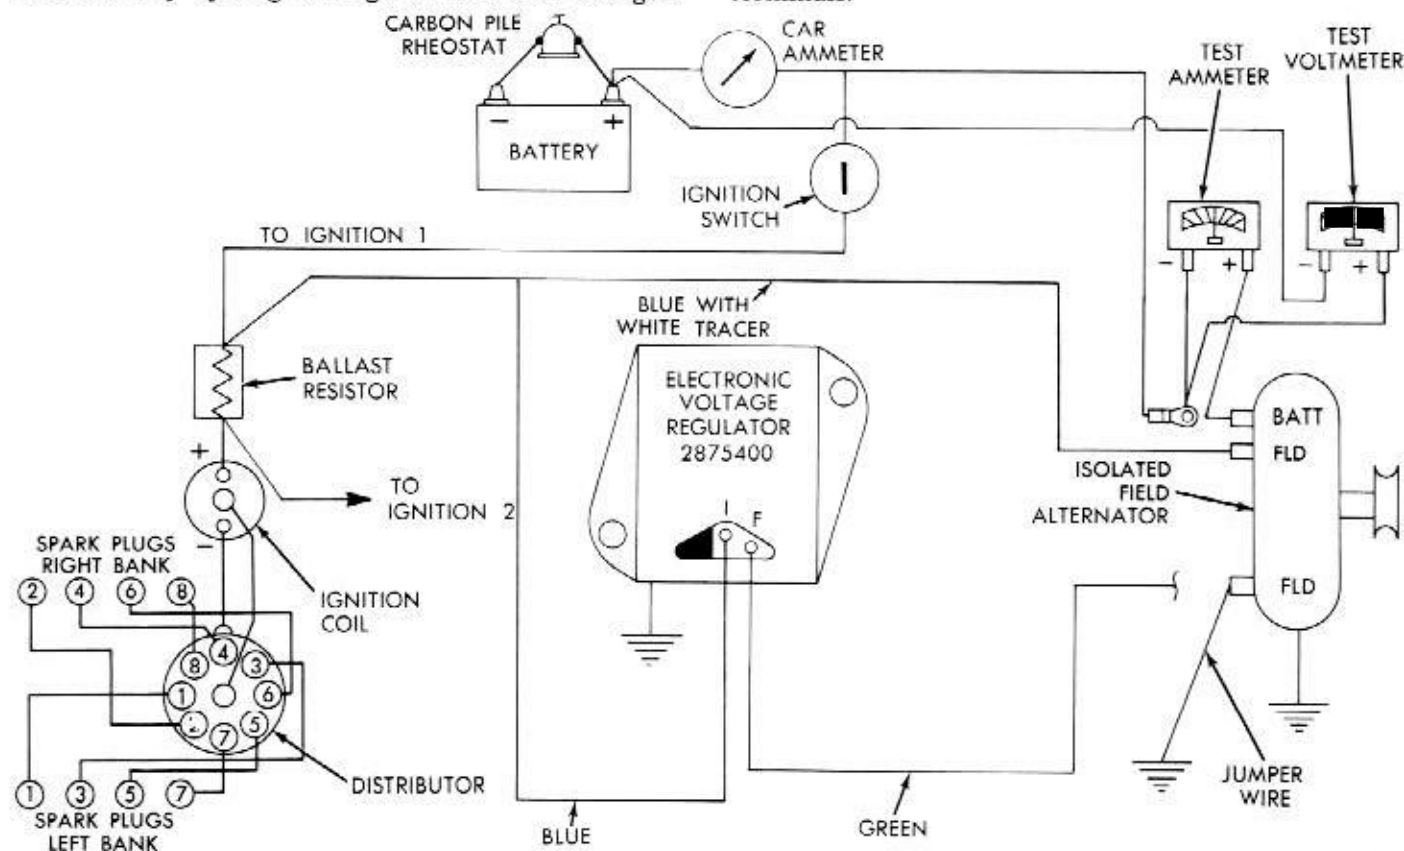

Fig. 3—Charging Circuit Resistance Test
- (1) Disconnect the battery ground cable.
- (2) Disconnect the "Batt" lead at the alternator output terminal.
- (3) Connect a 0-75 ampere scale D.C. ammeter in series between the alternator "Batt" terminal and the disconnected "Batt" lead (Fig. 3).
- (4) Connect the positive lead of a test voltmeter to the disconnected "Batt" lead. Connect the negative lead of the test voltmeter to battery positive terminal.
- (5) Disconnect the field lead from the alternator.
- (6) Connect a "jumper" lead from the alternator field terminal to ground.
- (7) Connect an engine tachometer. Connect the battery ground cable.
- (8) Connect a variable carbon pile to the battery terminals.